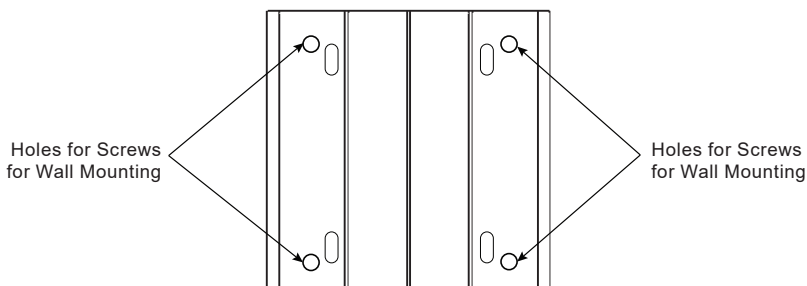

Fig. 9
3. Align the transmitter's bracket with the mounted bracket. Use a 4 mm hex tool to secure the 4 provided screws from the sides through the mating holes. See Figure 9.